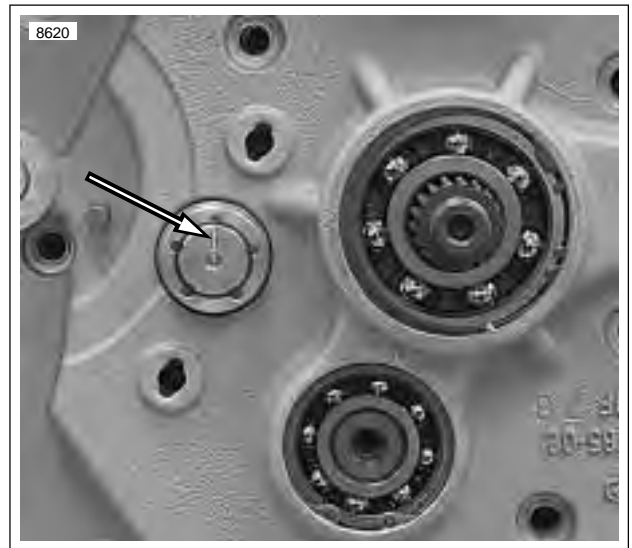

Figure 6-49. Scribed Line on Shifter Drum at 12 o'clock (Transmission in Neutral)
14. See Figure 6-49. Scribe a line on the end of the shifter drum at the 12 o'clock position for later reference.